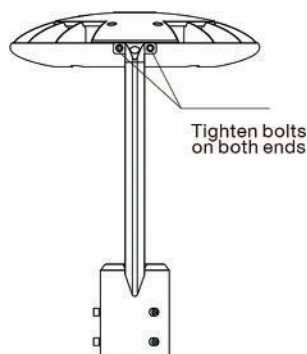
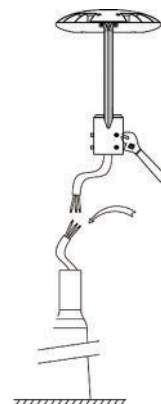

Figure 2
Figure 3
2. After rotating the head 90 degrees, tighten the supplied bolts on both sides of the bracket (Figure 2). Loosen the bolts on the pole mount to accommodate the desired pole diameter (Figure 3).